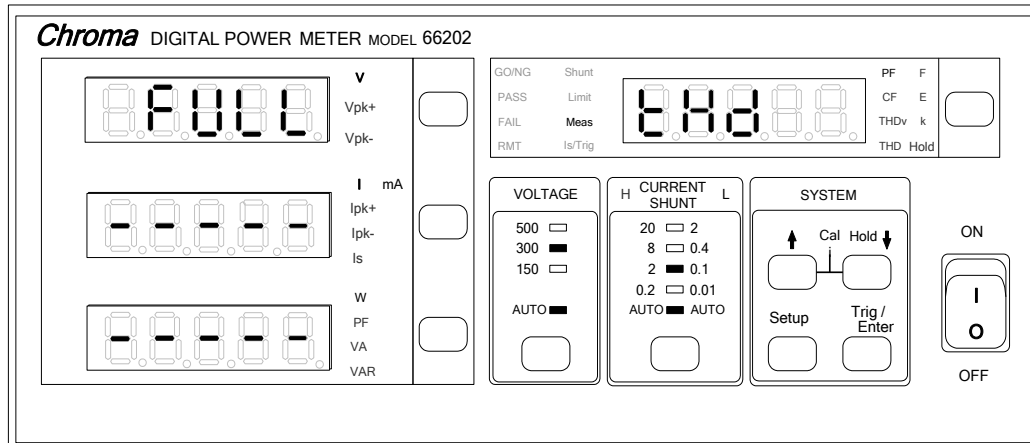

Figure 4-24 Setting THD Parameters
1. Press **Setup** to select Meas and the indicator of Meas is on as shown on Figure 4-24.